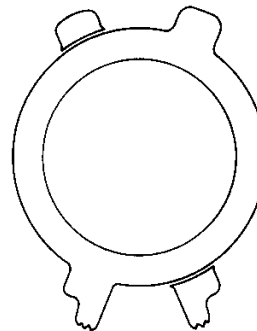

Figure 1-3
- 11) As shown in Fig. 1-3, put the before and behind magnets upon each other on 4-pole magnet.